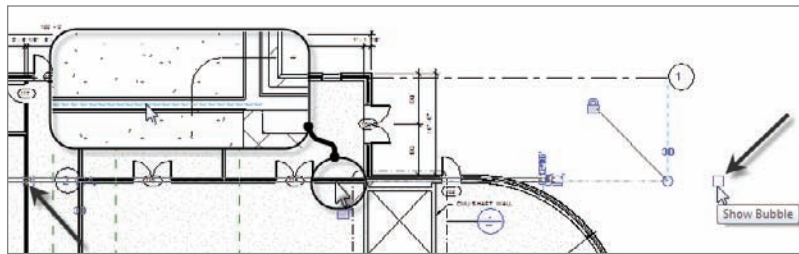

FIGURE 8.5 Adding the second grid line
10. Pick the core centerline of the 6 1/8" wall that terminates at the exterior wall, as shown in Figure 8.5.
13. On the left side of grid 2, you will see a grid bubble (see Figure 8.5). You will also see the same blue checkbox. Click the checkbox to turn the grid head off at this location.